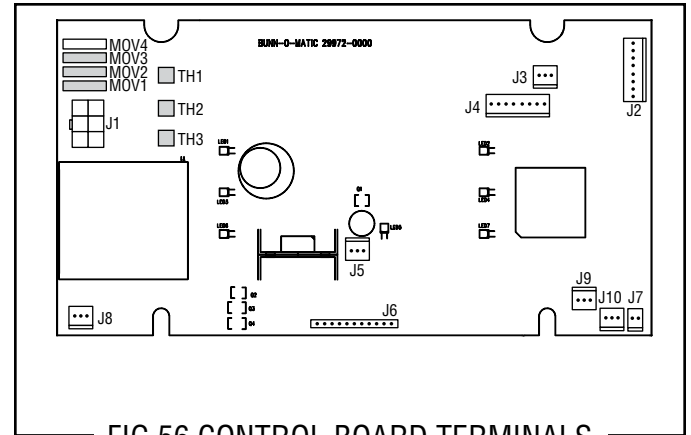

FIG 56 CONTROL BOARD TERMINALS
5. Refer to Fig 56 when connecting wires.